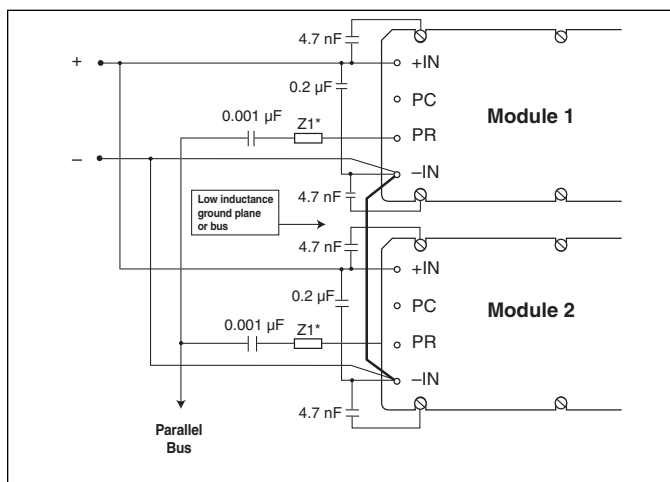

Figure 2-7 — AC coupled single-wire interface
1. AC-coupled single-wire interface: All PR pins are connected to a single communication bus through 0.001 μF (500 V) capacitors. This interface supports current sharing and is fault tolerant except for the communication bus. (Figure 2-7) This method may normally be used with a maximum of three converters.